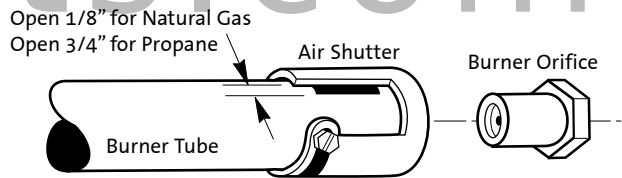

Figure 16. Air Shutter adjustment and Burner Orifice.
10. Adjust the Air Shutter on the Burner Tube (15) to allow for the proper mixing of air and gas. See fig. 16. The correct settings: